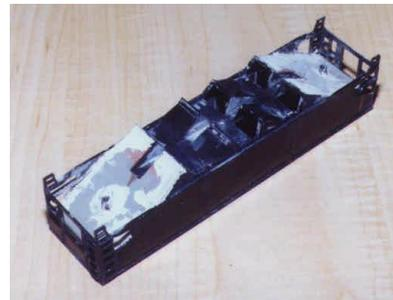

Figure 3. The Athearn weights in place.
2. Glue the Athearn weights in place. Remove the long plastic column that the truck screw goes into. Putty the gaps around the weights and, when dry, sand smooth. See Figure 3.